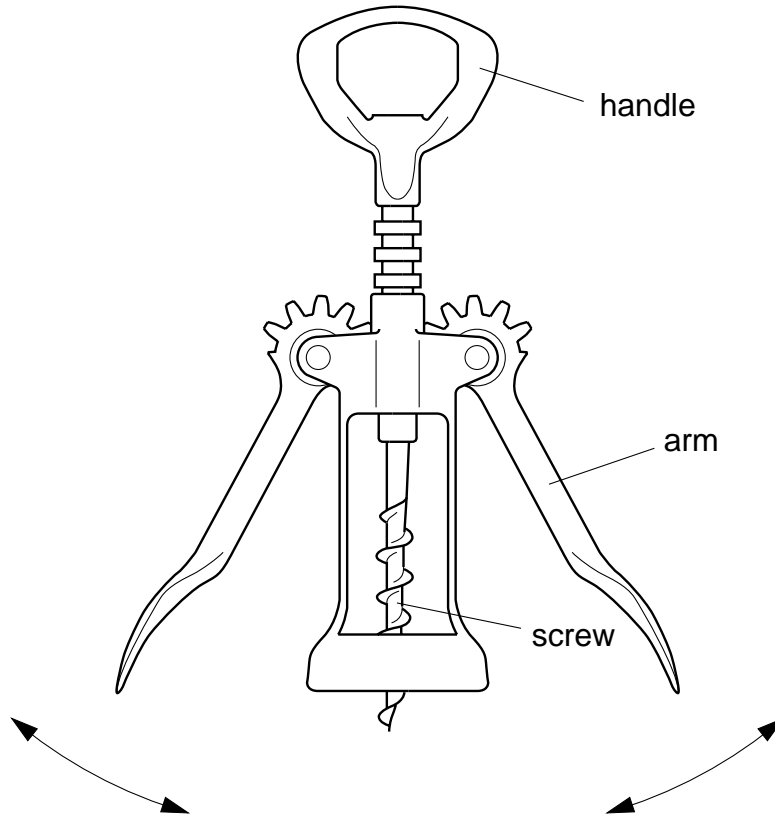

Fig. 10
- 9 Fig. 10 shows a combined corkscrew and bottle opener.